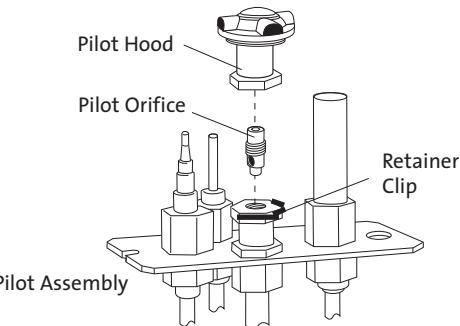

Figure 16. Pilot Orifice replacement.
- Disengage the Pilot Hood by releasing the retainerclip as shown in Fig. 16. Using a 4 mm allen wrench, unscrew the pilot orifice (counter-clockwise). Replace with the orifice from the kit. Tighten new orifice securely into the base of the pilot assembly.